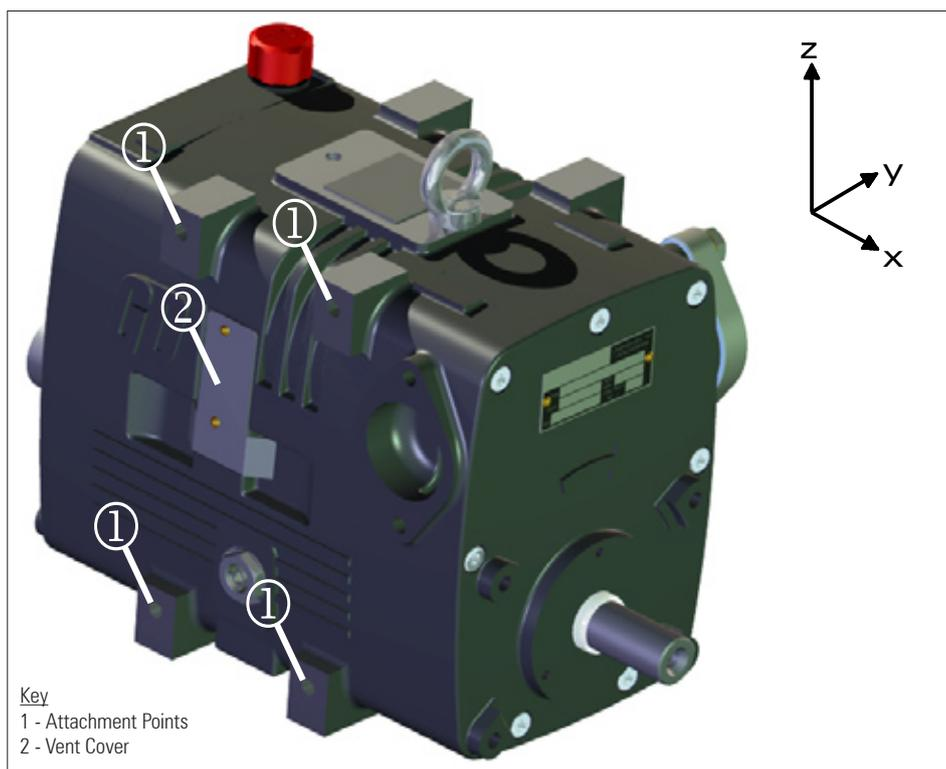

Figure 2a. Attachment Points
- The compressor must be mounted with the discharge port up (in the 'Z' direction as shown in Fig 2a).
- The machine is secured at all four points on one of three sides using four screws (see Fig. 2a/1).
- The machine has three sets of mounting holes (Fig. 2a/1) located on the right, left or bottom of the casing and these are provided to maximise the mounting options available to the installer.